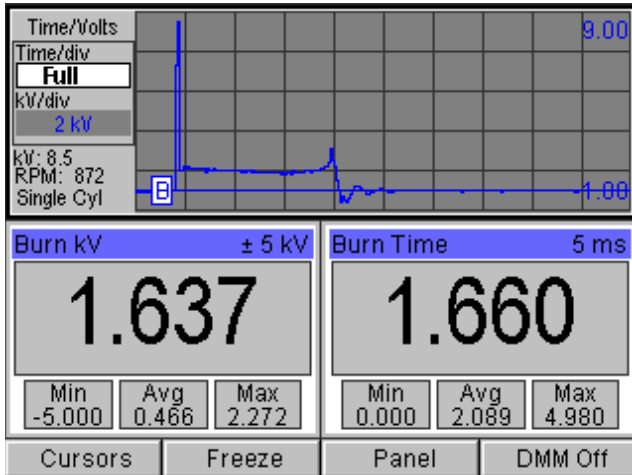

Figure 9.5: Ignition Single Cylinder Screen - DMM On
- If you press the DMM On function key, the bottom half of the screen displays two DMM panels with the Burn kV and Burn Time readings, as shown in Figure 9.5.